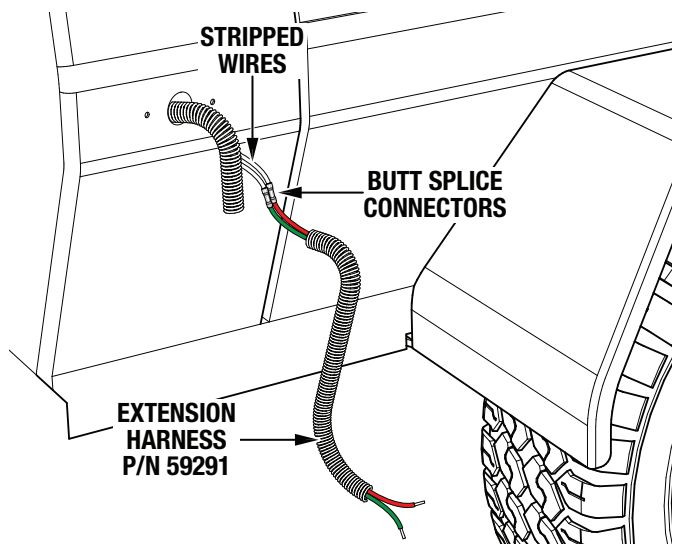

Figure 11. Wire Splicing
6. Insert the end of one of the stripped wires into one of the extension harness butt splice connectors (Figure 11) and crimp.
7. Insert the end of the other stripped wire into the remaining butt splice connector on the same end of the extension harness (P/N 59291) and crimp. See Figure 11.